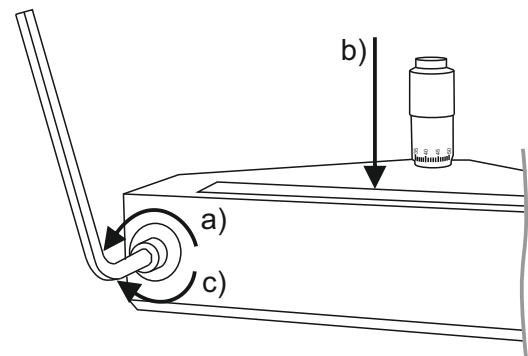

Figure 2
- 3 Using a 4mm hexagonal wrench (supplied), turn the two hexagonal screws anticlockwise to loosen, press the blade firmly against the flat surface and then tighten the two screws - turning clockwise (Figure 2).